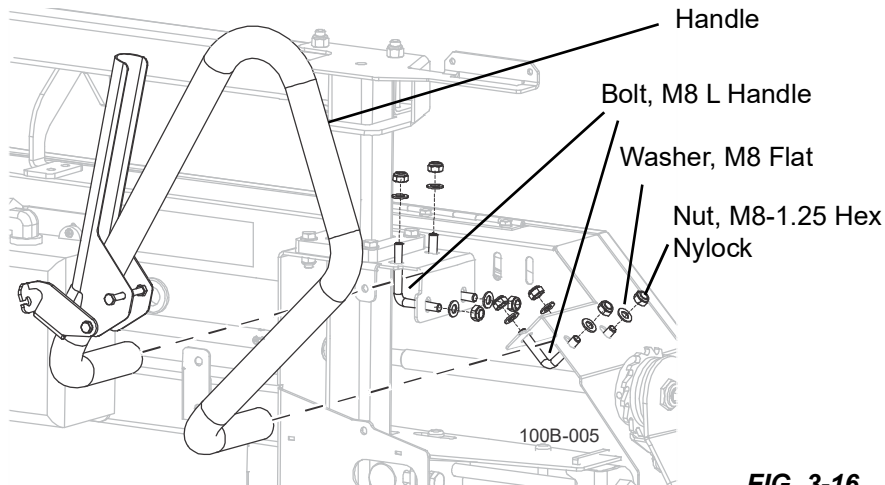

FIG. 3-16
- Invert the handle and replace it as shown. See FIG. 3-16.